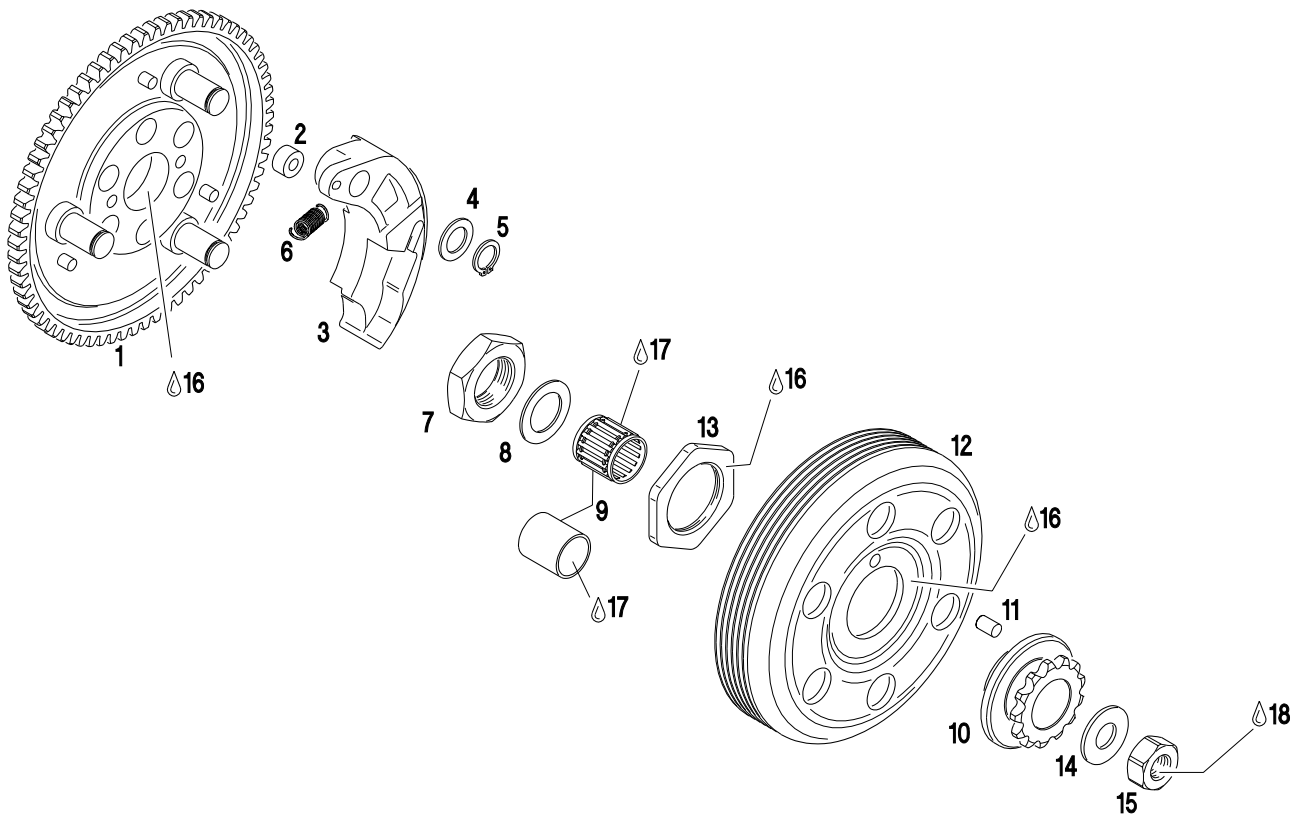

Fig. 15
- ⇒ Remove hex. nut (item 15) and thrust washer (item 13). See fig. 15.
- ⇒ Remove clutch drum (item 12) with fitted chain sprocket.
- ⇒ Clear thread of crankshaft and hex. nut (item 15) from remains of bonding agent and degrease.